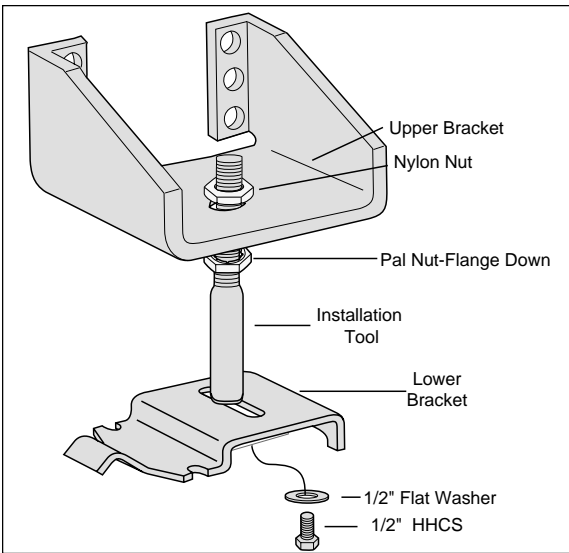

Figure 3
2. Place the upper bracket "legs up" onto the threaded end of the tool resting on the bottom Pal nut. Then thread a nylon nut onto the tool to hold the bracket in place (Figure 3).
3. Use the 1/2" x 7/8" hex head bolt and flat washer to attach the lower bracket to the bottom of the installation tool. Leave loose enough to adjust in and out (Figure 3).